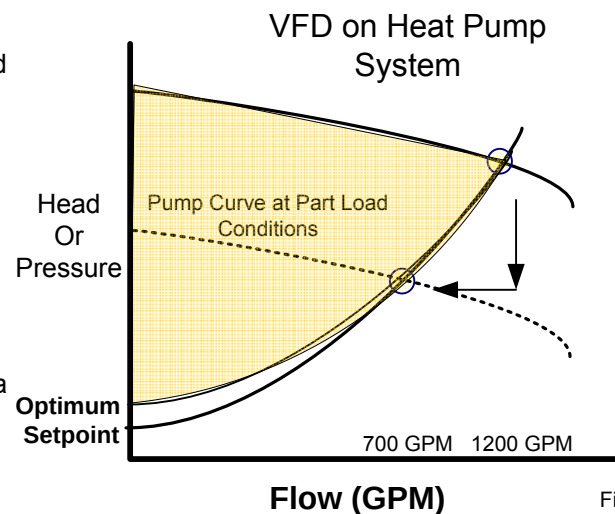

Figure: 1
Heat pump loop systems may be converted to variable flow by installing a solenoid valve on each heat pump to stop the flow of water through the local heat pump (HP), when the unit is not operating. This allows the pump head to increase and the VFD to modulate the pump speed to maintain a constant head (reduced flow). The result is a demand reduction and energy savings. Figure 1 shows the potential energy savings (shaded) on the pump curve.